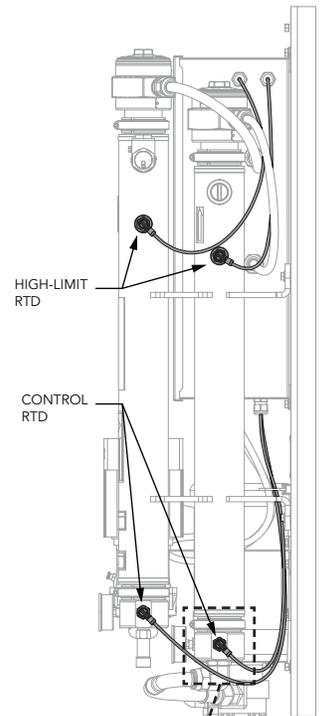

Figure 10. RTD plug. Unscrew plug and remove to disconnect RTD prior to removal.
- If there **is no continuity** between TCR terminals **T2** and **T3**, locate the connected RTD on the heating tank. Unscrew the RTD plug from the RTD. See Fig. 9 and Fig. 10 on following page.
3. Unscrew RTD plug. Remove plug. See Fig. 10.